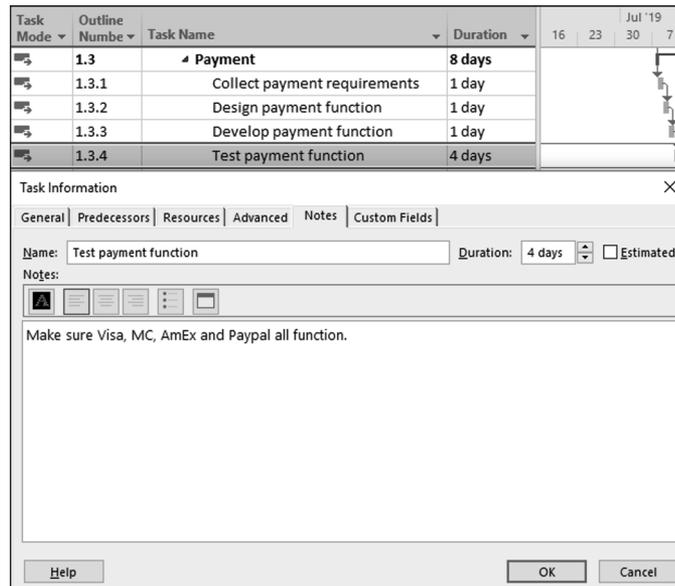

FIGURE 3-9:
2. Select the Notes tab, as shown in Figure 3-9.